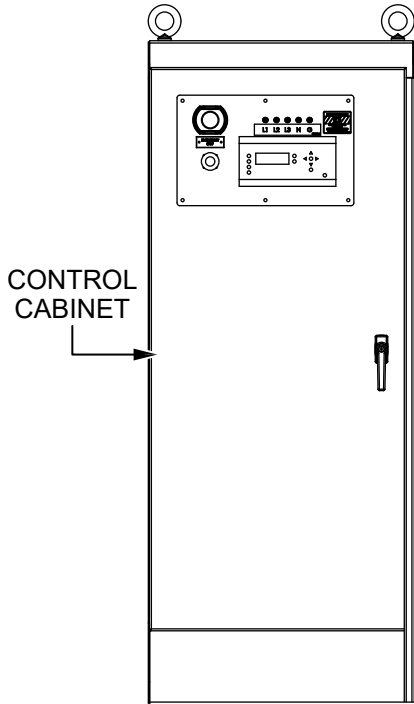

Figure 21. Control Cabinet
1. Open the **control cabinet** (Figure 21) to access the DEIF controller wiring.